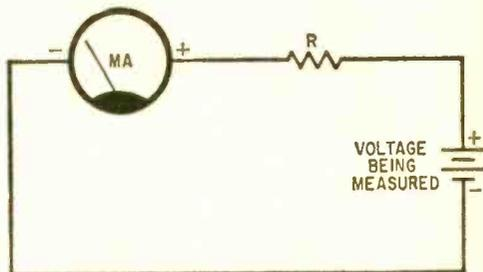
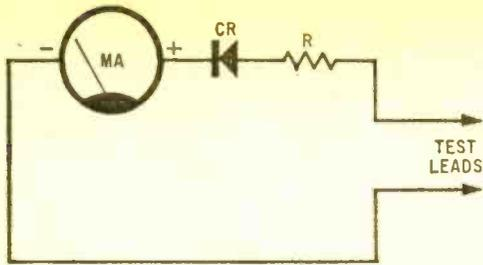

Fig. 3. Simplified DC voltmeter circuit.
Fig. 9. Rectifier makes DC circuit go AC.
Fig. 3. "Cut away" detail drawing of a flat cathodic-envelope dry cell. Many of these cells are connected in series to obtain high voltages for portable transistor radios and many other gadgets such as hearing aids and test gear.
Fig. 9. Three tanks stacked up in a line as in left above, will provide three times the pressure. In right above, the tanks are on the level, and the total pressure is that of one tank. However, there is three times as much water, so the water will flow for a longer time. Dry cells in series provide three times the pressure drop or voltage. The current remains the same as for a single cell. If the batteries are connected in parallel, the voltage is the same as one cell, but current capacity is the sum of all three dry cells. Current is to capacity as voltage is to pressure.
high current requirements of modern semiconductor circuits. Figure 3 shows the construction of "Eveready" cathodic envelope cell. Notice that this cathode is made up of two cakes of depolarizer mix, with the zinc anode sandwiched between them. This doubles the effective anode area and reduces the chemical mix's current density . . . the net result being a much greater electro-chemical efficiency under conditions of heavy current drain.
**Voltmeters.** There are several kinds of voltmeters. The most widely used type consists of a DC milliammeter and a series resistance, as shown in Figure 3. The meter actually measures the current flowing through the series resistance, which is relative to the voltage applied to the circuit. The meter scale can be calibrated in volts. The maximum range of the voltmeter is determined by the value of the series resistor. For example, if the meter is a 0-1 DC milliammeter, and the resistor has a value of 1000 ohms, the voltmeter will indicate "1", its full-scale point, when the measured voltage is one volt. However, we have not taken into account the internal resistance of the meter. If it is 100 ohms, the meter will actually read 0.909 instead of 1. Therefore, the series resistor should have a value of 900 ohms. Thus, the total circuit resistance is 1000 ohms and the current through it with one volt ap-
**AC Voltmeters.** The same basic meter can be used to measure AC voltage. If we add a diode rectifier to the circuit shown in Figure 3, as now illustrated in Figure 9, the meter will read DC voltage when the positive terminal of the measured voltage is applied to the test lead connected to the anode of the diode and the series resistor. If we reverse the test leads so that the negative side of the circuit is connected to the anode of the diode, the meter will indicate zero since the diode blocks passage of current. But, if we apply an AC voltage to the circuit, the diode rectifies the AC and DC flows through the meter, and it doesn't matter which way the test leads are connected.
metered. For instance, when a voltmeter is used to measure the voltage at the plate of a tube, as shown in Fig. 18, the voltage drops when the meter is connected and the true normal voltage is not indicated. If the voltmeter is of the type shown in Figure 3, using a 0-1 DC milliammeter and a 100,000-ohm series resistance, the meter will indicate a much lower voltage than is actually there when the meter is not connected across the circuit. The meter load is the same as adding the shunt resistor R, shown connected in dotted lines, from plate to ground. If the meter is a 0-50 DC microammeter, the loading effect will be only 5 percent as severe since the meter and its series resistor for 0-100 volt full-scale reading will represent a load of two megohms. But, the input resistance of a vacuum tube voltmeter is usually in the order of several megohms and has but slight loading effect on the circuit.